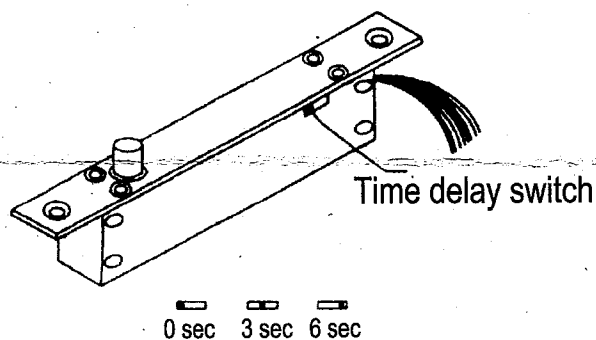

Figure 4
2.5 Time delay adjustment. it is located in the middle of lock(figure 4).it is 0,3,6sec.